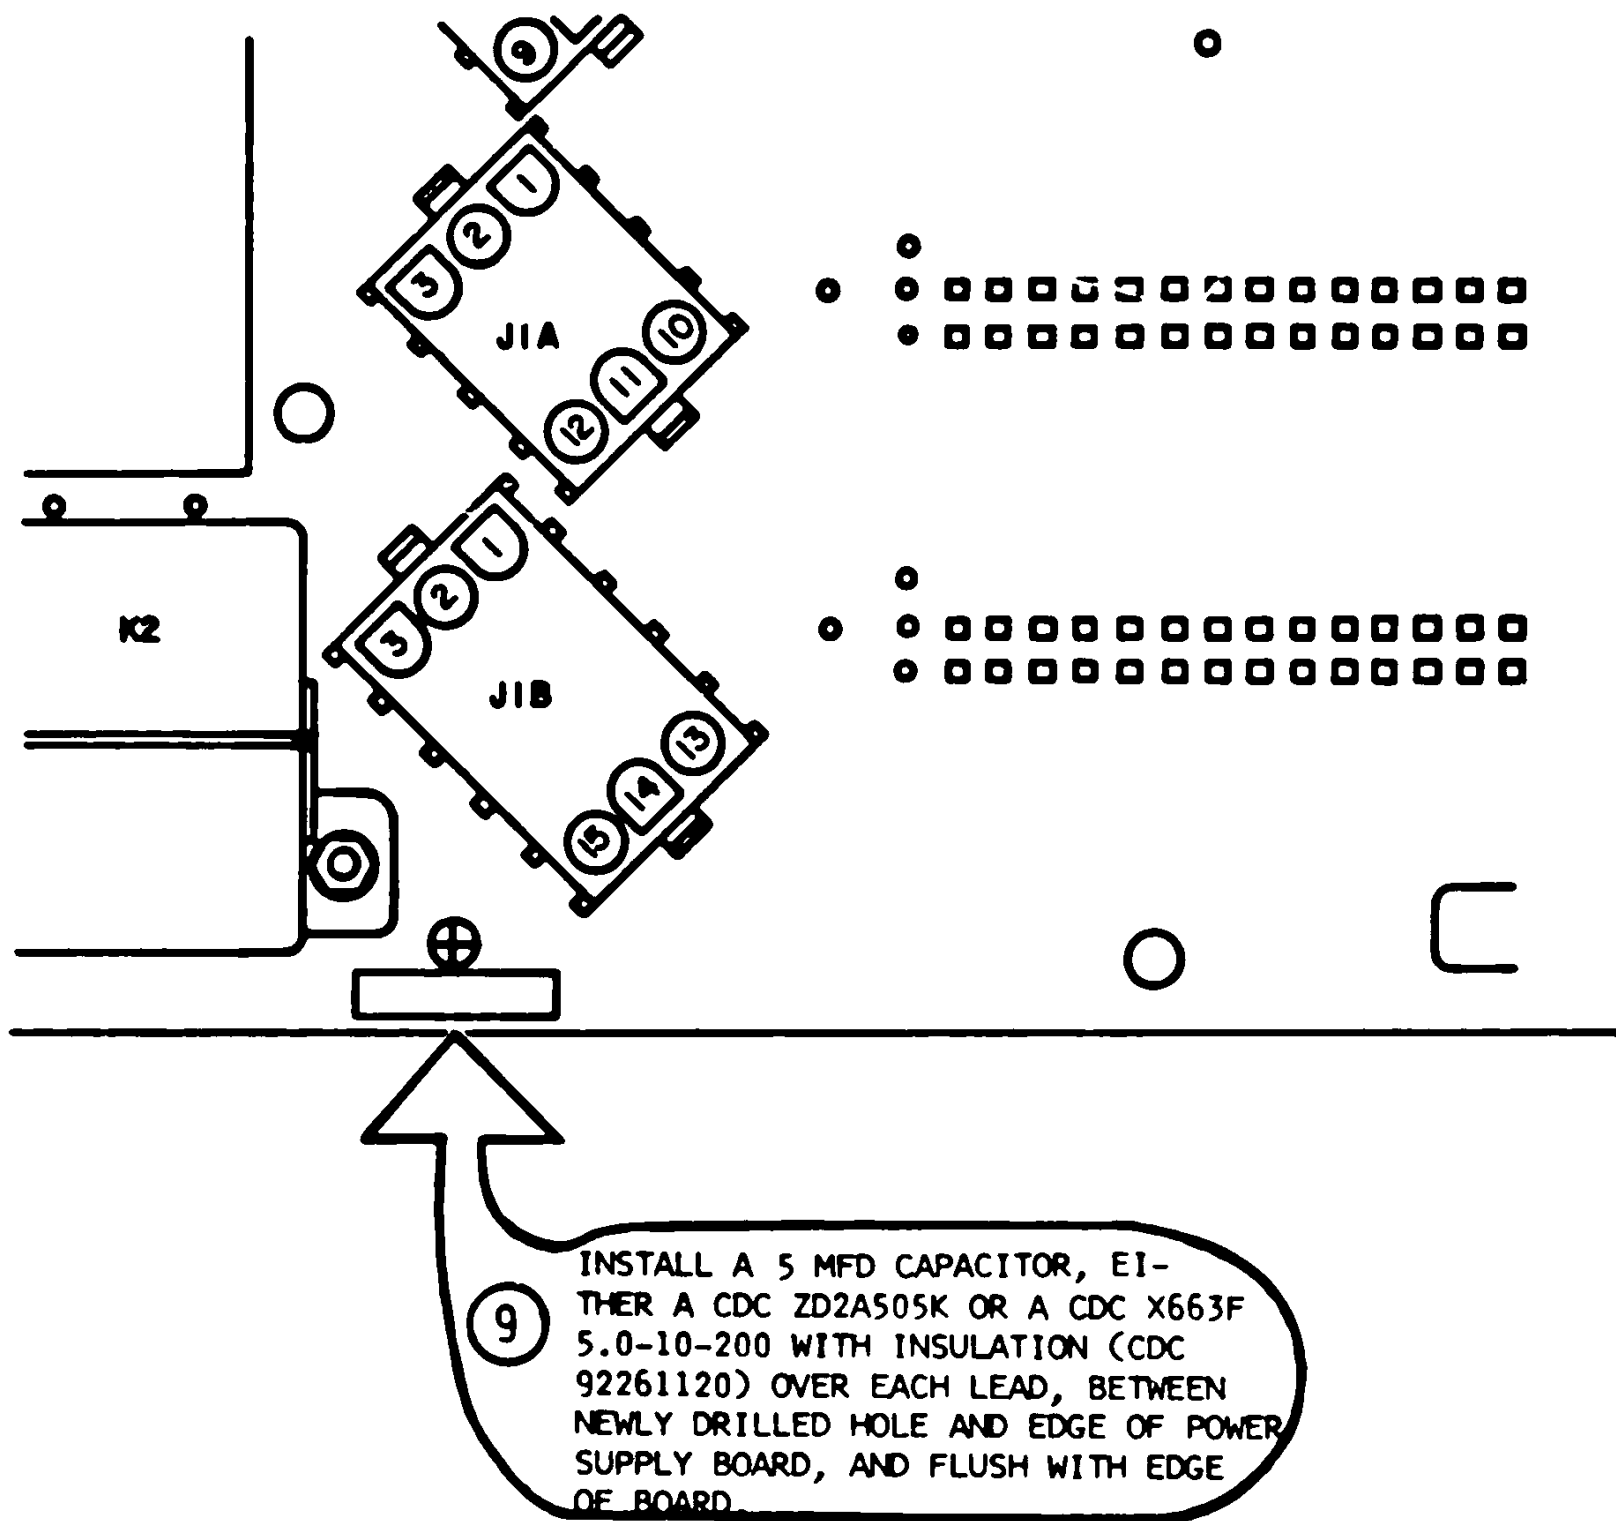

FIGURE 2
- 9- INSTALL A 5 MFD CAPACITOR, EITHER A CDC ZD2A505K OR A CDC X663F 5.0-10-200 WITH INSULATION (CDC 92261120) OVER EACH LEAD, BETWEEN NEWLY DRILLED HOLE AND EDGE OF POWER SUPPLY BOARD, AND FLUSH WITH EDGE OF BOARD. (FIGURE 2)